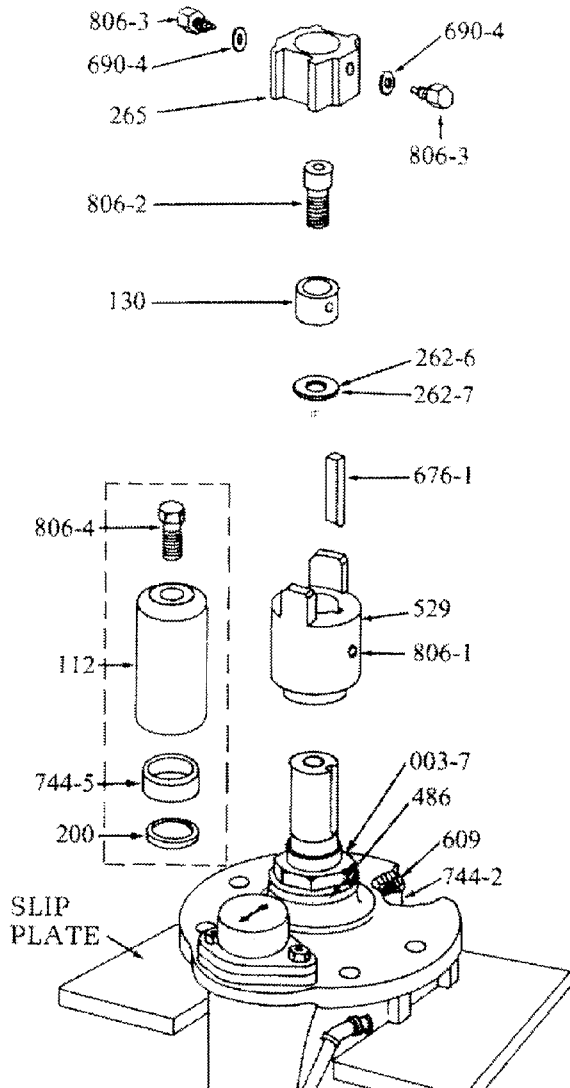

Figure 11 Motor half coupling components
1. Motor half coupling is factory installed. Refer to Figure 11.